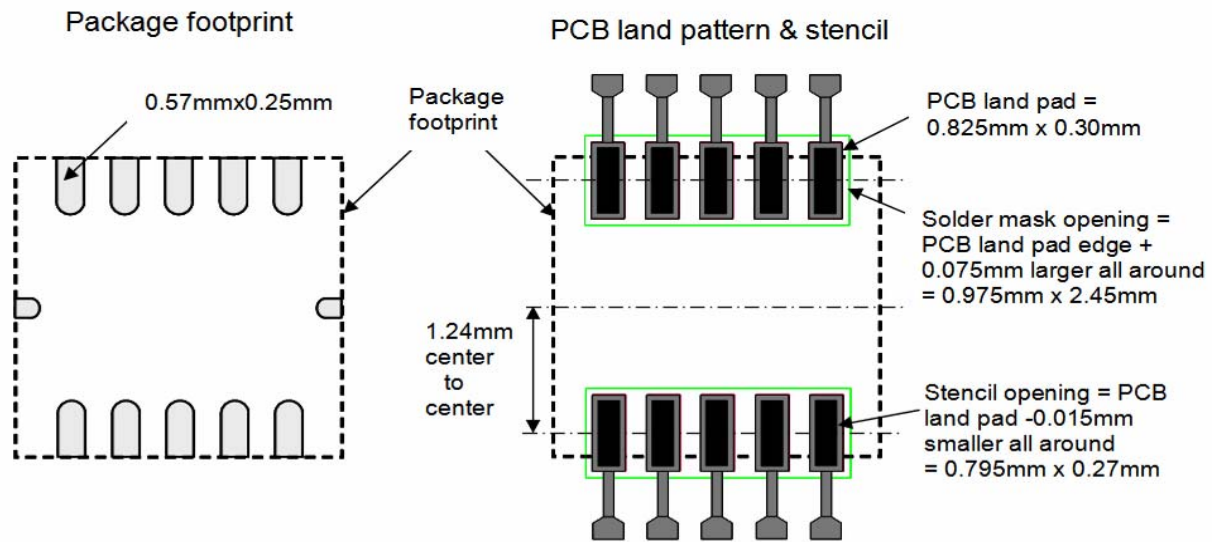
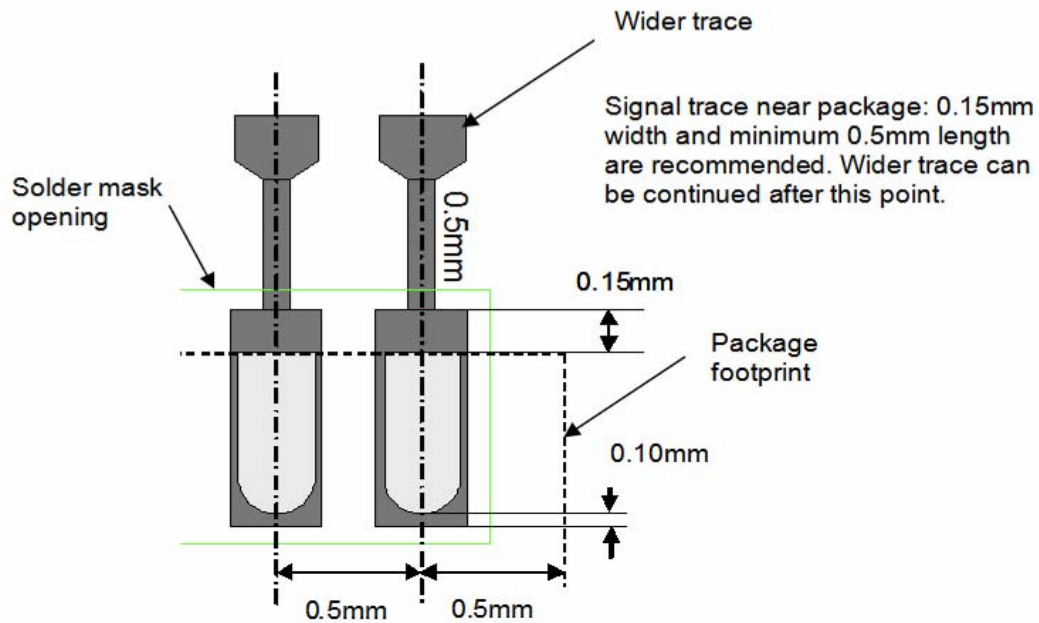

Figure 16. Package Footprint, PCB Land Pattern, and Stencil Design
Figure 17. PCB Land Pattern Detail
1. The PCB land should be designed with Non Solder Mask Defined (NSMD) as shown in Figure 16 and Figure 17
3. PCB land pad is 0.825 mm x 0.3 mm as shown in Figure 16 and Figure 17.
9. Signal traces connected to pads should be as symmetric as possible. Put dummy traces on NC pads in order to have same length of exposed trace for all pads. Signal traces with 0.15 mm width and minimum 0.5 mm length for all PCB land pads near the package are recommended as shown in Figure 16 and Figure 17. Wider trace can be continued after the 0.5 mm zone.